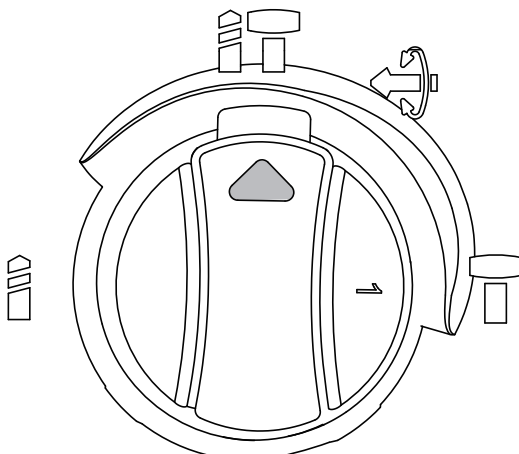

Figure 8
5. HAMMER DRILL FUNCTION (SEE FIG. 8)